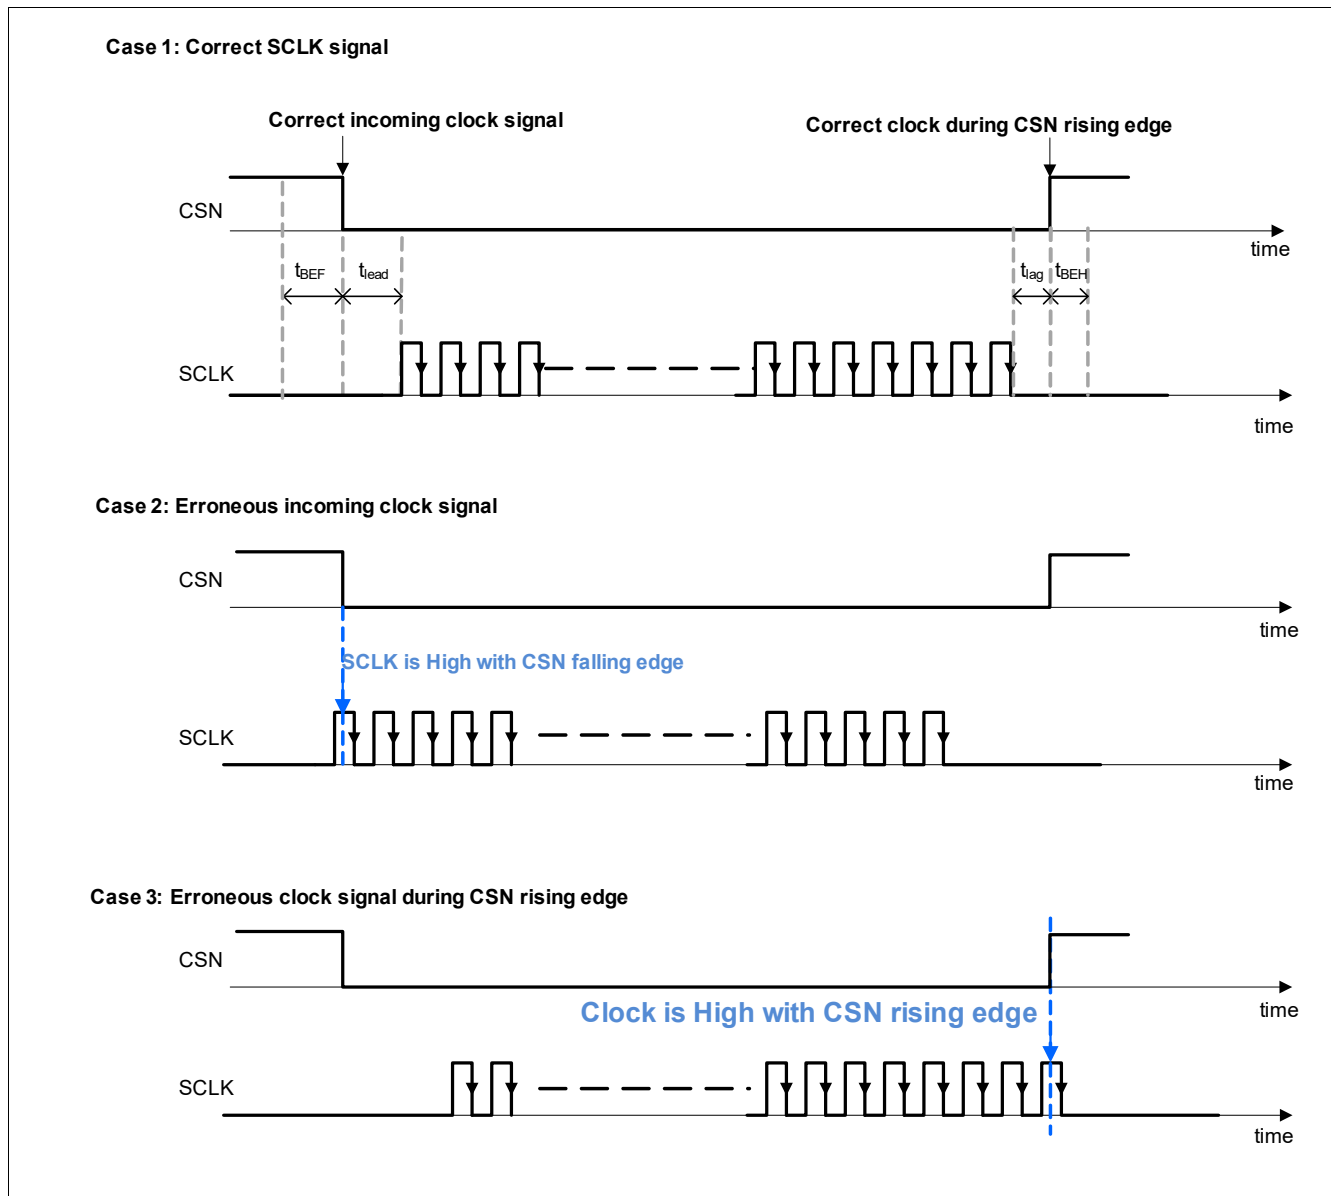

Figure 45 Clock polarity error
- A clock polarity error is detected (see **Figure 45** Case 2 and Case 3): the incoming clock signal was High during CSN rising or falling edges (protocol error).